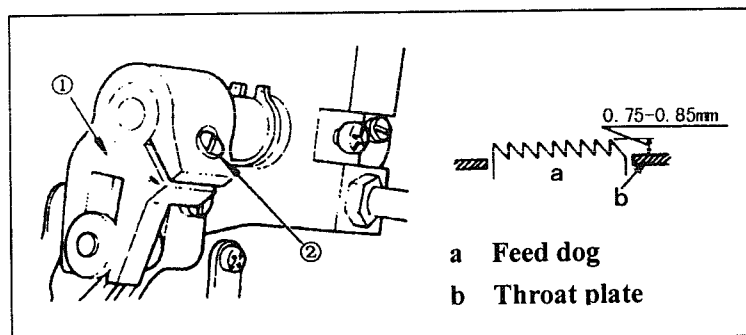

Fig.19
13.HEIGHT OF THE FEED DOG (Fig.19)